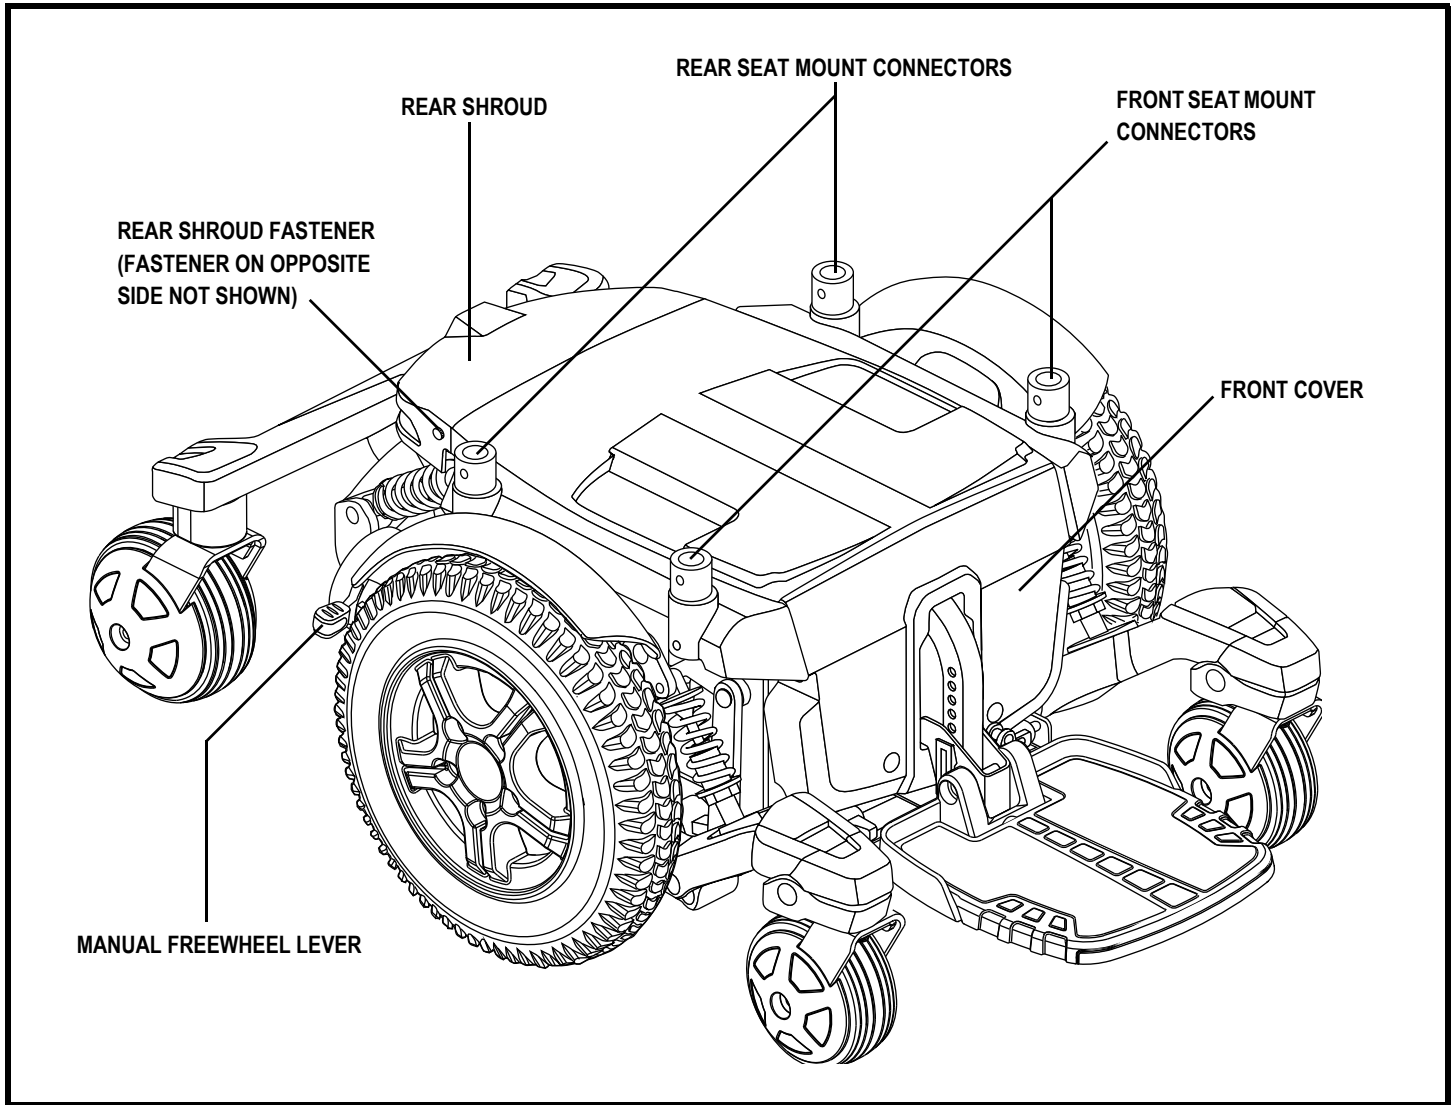

Figure 6. The Quantum 6000 Series Power Base
5. Loosen the rear shroud fasteners and remove the rear shroud. See figure 6.
7. Replace the rear shroud and tighten the rear shroud fasteners. See figure 6.
3. Loosen the rear shroud fasteners and remove the rear shroud. **See figure 6.**